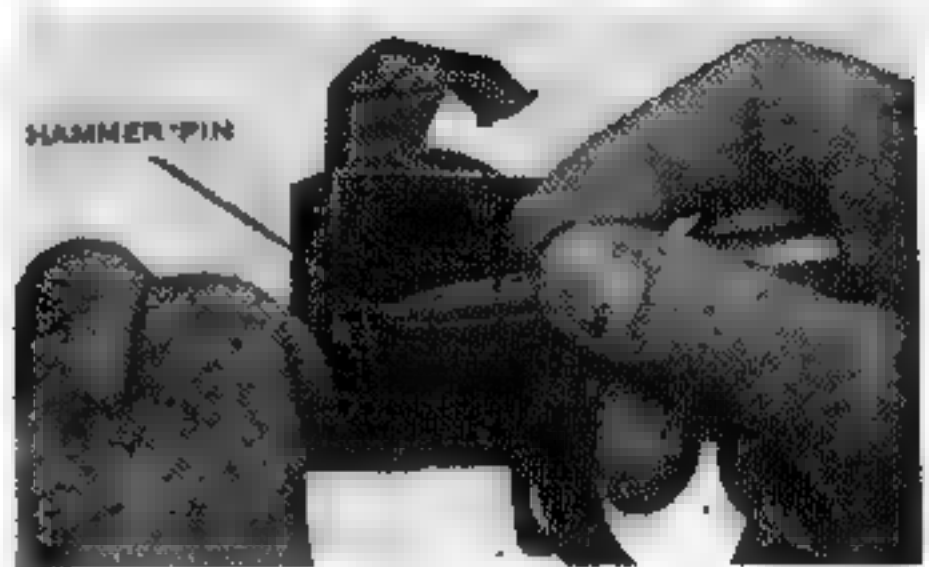

Fig. 74. Removing hammer pin and hammer.
(3) Holding the trigger housing as shown in Fig. 74, use the tip of a cartridge to push out the hammer pin. Move the hammer slightly to the rear and lift it out.